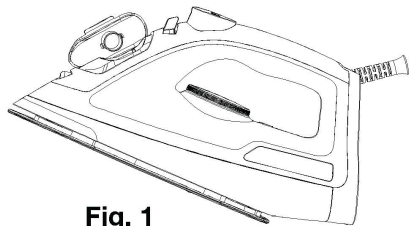

Fig. 1
3. Tilt iron backwards at a 45° angle, then fill with water up to the MAX mark on the steam iron. (see **Fig. 1**)